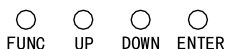

Fig.7
- Press the button FUNC so many times until the display shows [AUL] (fig.7).